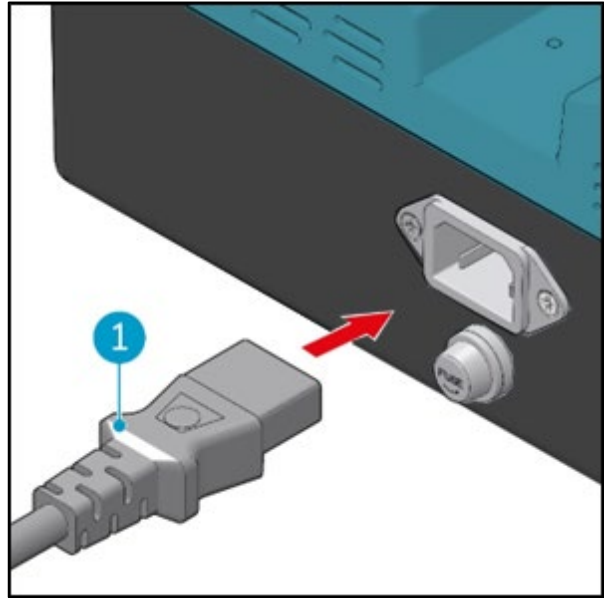

Figure 6
Connect the power cable (Figure 6, pos 1) to the connector at the back side of the i-charge 9.